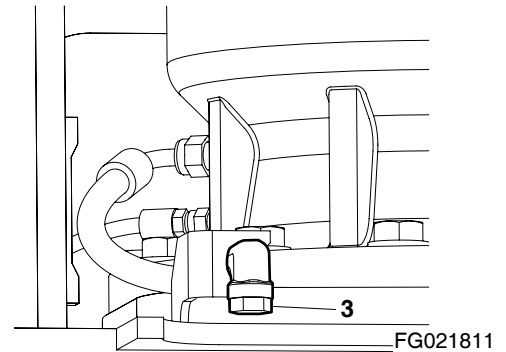

Figure 96
2. Release the drain plug (3, Figure 96) and drain the swing reduction device oil into a container.